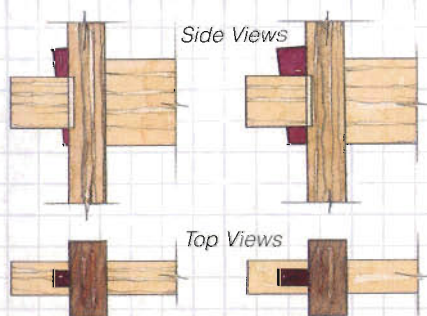

Figure 15. Glue and clamp the short shoulder rail flush to the shoulder rail.
Step 14: Attach the short shoulder rails. Attach one and let it cure before you do the second. (See Figure 15.) Paddle a mean amount of glue on the short shoulder rail. Hold the stretcher rail in the vise, press the short rail in place and rub it about 1/2" up and down to spread the glue and wet both faces. Pull it off and add dabs of glue where needed. Rub it into place again and position it using a straightedge — taken from a try square. Center it by eye. Clamp it and check the shoulder again.